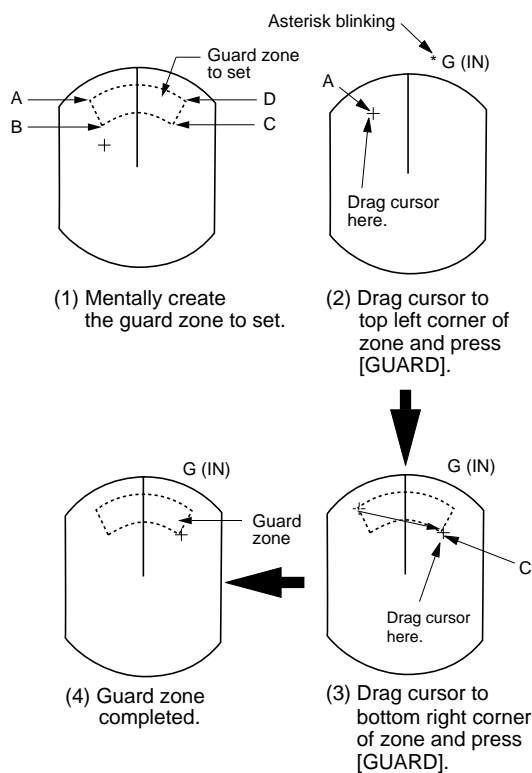

Figure 3-8 How to set the guard zone
2. Operate the omnipad to set the cursor on point A or B. Press the [GUARD] key. "*G (IN)" or "*G (OUT)", with asterisk blinking, appears at the top right-hand corner of the display. See Figure 3-8 (2). (The asterisk indicates the guard zone is partially set.)
3. Operate the omnipad to set the cursor on point C or D. See Figure 3-8 (3).
4. Press the [GUARD] key. The asterisk disappears. See Figure 3-8 (4).